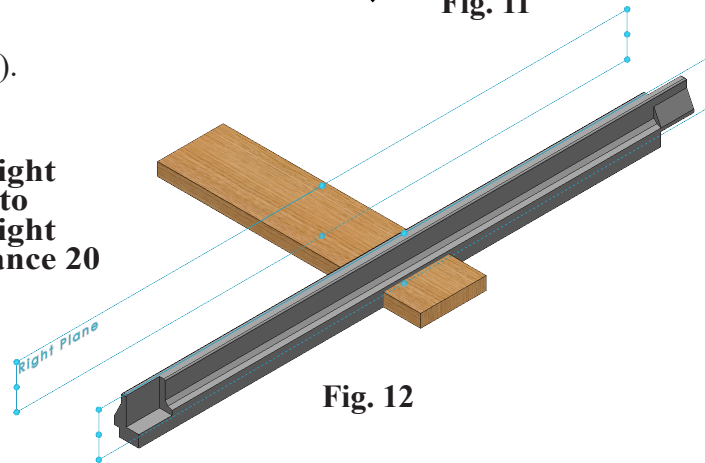

Fig. 12
Step 8. Click **Distance** in Mate pop-up, Fig. 11. Set distance **20** and press ENTER. The Rail should positioned right hand side of track (driver's side), Fig. 12. If positioned in opposite direction, click **Flip Dimension** in the Mate pop-up. Click Add/Finish Mate to add Distance mate.